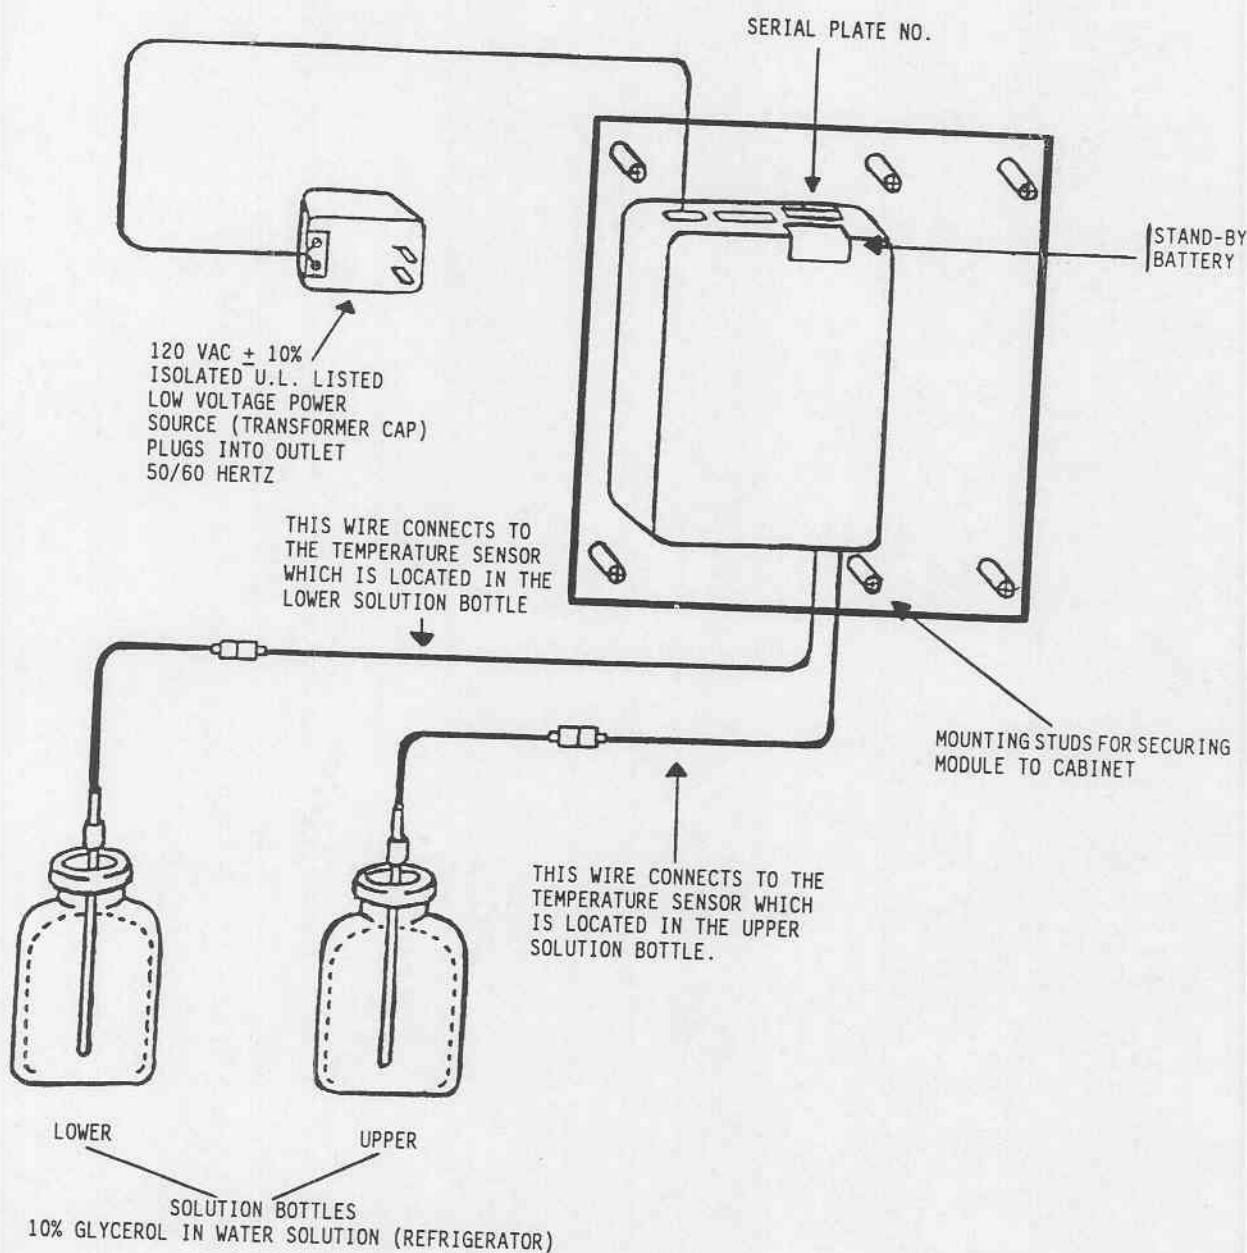

Figure 2-1. Monitor connections.
a. Refer to the connection diagram in figure 2-1. Remove the sensor from the 8-ounce plastic bottle in the upper blood refrigerator cabinet interior. Fill the bottle with a 10 percent glycerol in water solution. Insert the sensor into the bottle, making certain that it is immersed into the liquid until the solution is within ½-inch of the top of the bottle.